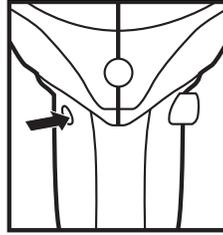
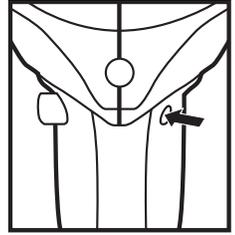

Fig. E1
Fig. E2
#### 4. FORWARD, REVERSE ROTATION AND LOCK CONTROL(See Fig. E1, E2)
Your tool is equipped with a forward, reverse rotation and lock control (4) located above the on/off switch (6). It was designed for changing rotation of the chuck and for locking the on/off switch (6) in the center position to help prevent accidental start and accidental battery discharge. The screwdriver has forward/reverse function, press the forward/reverse rotating control to the right (See Fig. E1), it is forward function, then press the forward/reverse rotating control to the left (See Fig. E2), it is reverse function.